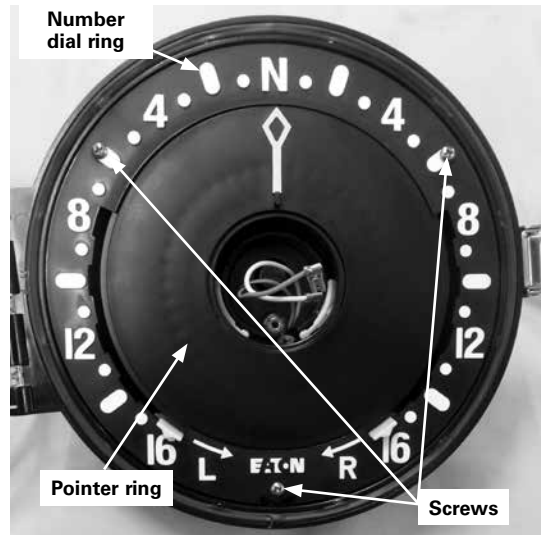

Figure 7. Number dial fastening
7. Remove and retain the three Phillips screws fastening the number dial ring to the position indicator. See Figure 7.